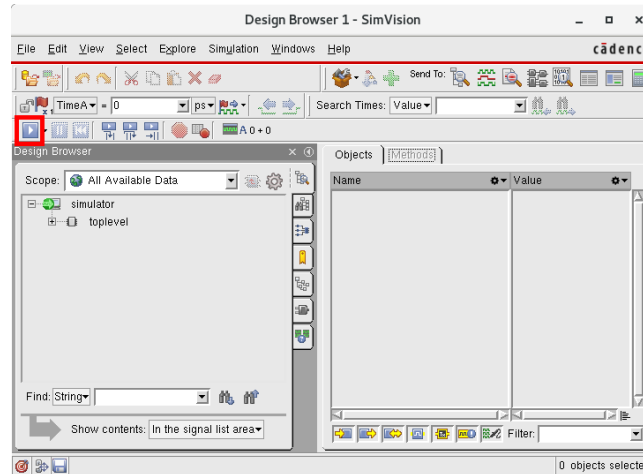

Figure 11: Design browser
5. The design browser window shown in Figure 11 will open. To start the simulation press the play-button in the upper left corner.